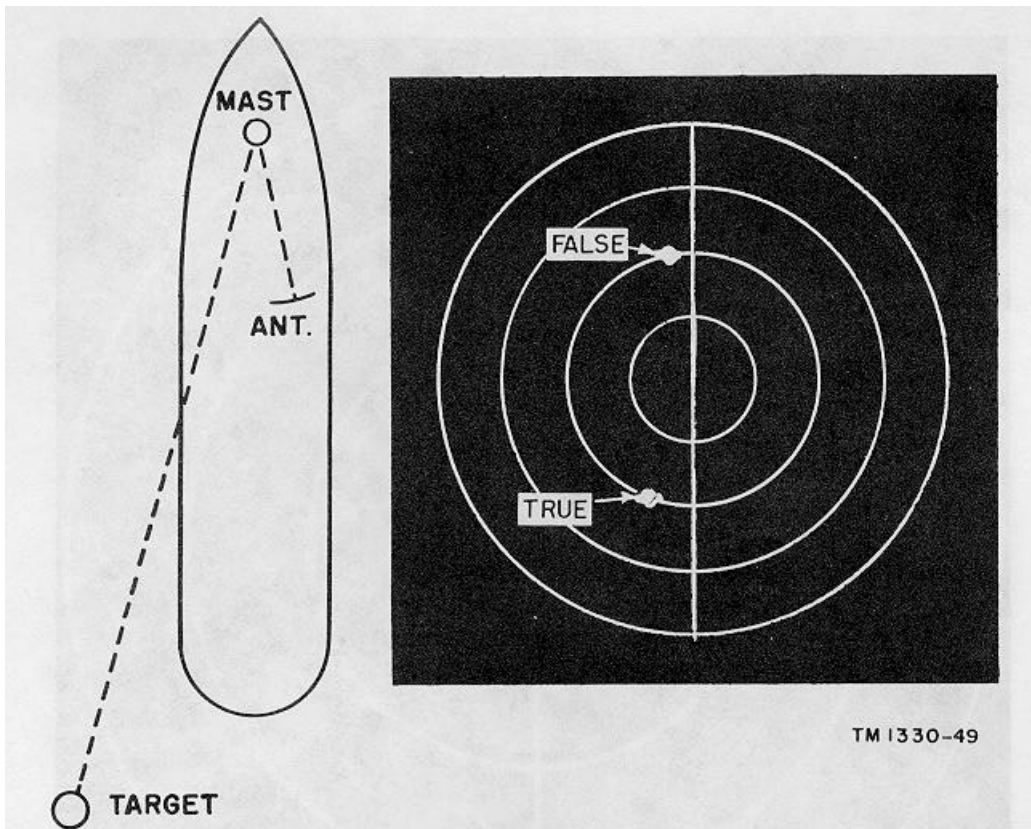

Figure 75. False target in forward position on 20-mile range.
a. Figure 75 illustrates the reflection of the radar beam in an aft direction when the antenna points forward. This causes a target which is astern to appear on the PPI as if it were ahead. A few seconds later, when the antenna does point at the target, its echo will appear at the correct position on the scope. This effect is recognized easily and depends on the structure of the ship, the height of the radar antenna, and the size of nearby targets.